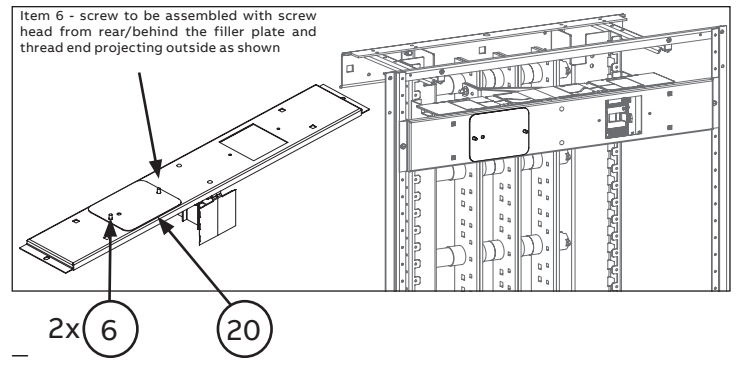

Figure 13. Installation of space filler plate on main filler plate
Install space filler plate (20) to any holes (left or right) in the main filler plate (from STEP 10) only in case of no breakers mounted behind. The space filler plate has to be secured with 2 thread forming screws [6] and torque to 30 lb-in. Refer figure 13.